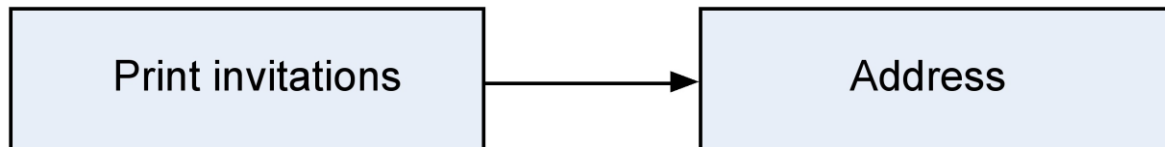

Figure 15.5: An example of a finish-to-start (FS) predecessor.
Many projects are structured or organized by project phases. Each phase would represent the first level of the WBS and their deliverables would be the next level and so on (Figure 15.5).
Figure 15.5: An example of a work breakdown structure (WBS) based on project phase. Illustration from Barron & Barron Project Management for Scientists and Engineers, <http://cnx.org/content/col11120/1.4/>
each activity is kept. All of the information you need to figure out; the order of the work should be here too. So any predecessor activities, successor activities or constraints should be listed in the attributes along with descriptions and any other information about resources or time that you need for planning. The three main kinds of predecessors are finish-to-start (FS), start-to-start (SS) and finish-to-finish (FF). The most common kind of predecessor is the finish-to-start. It means that one task needs to be completed before another one can start. When you think of predecessors, this is what you usually think of; one thing needs to end before the next can begin. It's called finish-to-start because the first activity's finish leads into the second activity's start (Figure 15.5).